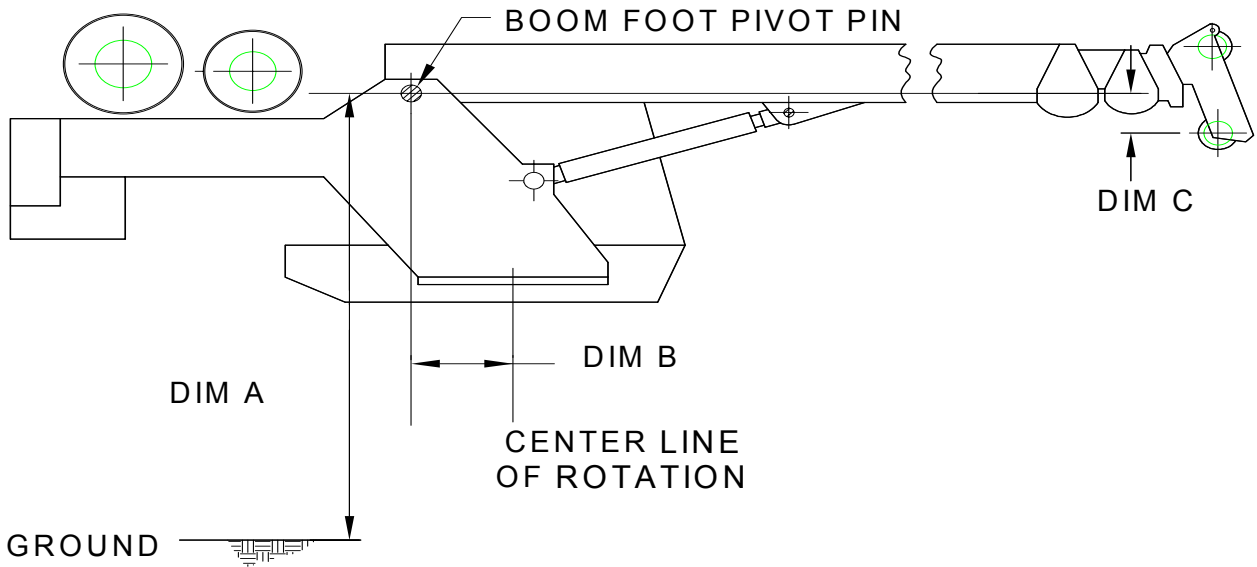

FIGURE 1. CRANE MEASUREMENTS
- 3.3 Write down the following geometric measurements, which will be used during calibration. (See Figure 1. Crane Measurements). The measurements taken should be in units that correspond to the load chart. (i.e. lbs/feet, Kg/meters, US-Tons/feet, Metric-ton/meters).